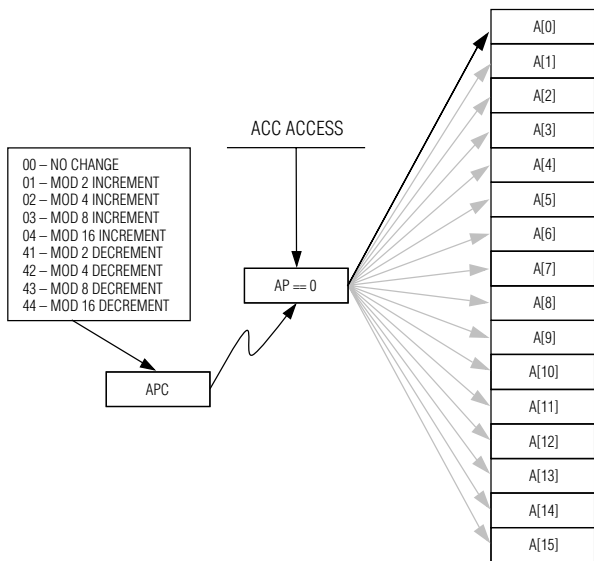

Figure 2. The active accumulator is designated by the AP register, which itself can be modified by accumulator access instructions.
Sixteen registers known as “accumulators” form a general-purpose register array. The register to which the Accumulator Pointer register (AP) points is designated the “active accumulator,” which is the target of arithmetic and logical operations. Thus, by changing the value in the AP register, any of the 16 accumulators can be designated the target of an arithmetic logic unit (ALU) operation. The Accumulator Pointer Control register (APC) causes the AP to increment or decrement automatically whenever the active accumulator is accessed, thus making multiprecision arithmetic simple. In **Figure 2**, A[0] is the active accumulator, but any accumulator access can make A[1] or A[15] the active accumulator, depending on the value of the APC register.